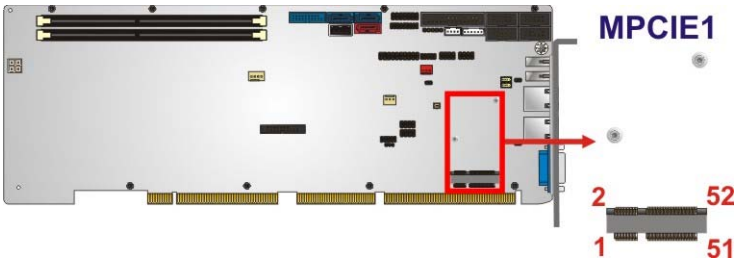

Figure 3-20: PCIe Mini Slot Location
- CN Location: See Figure 3-20